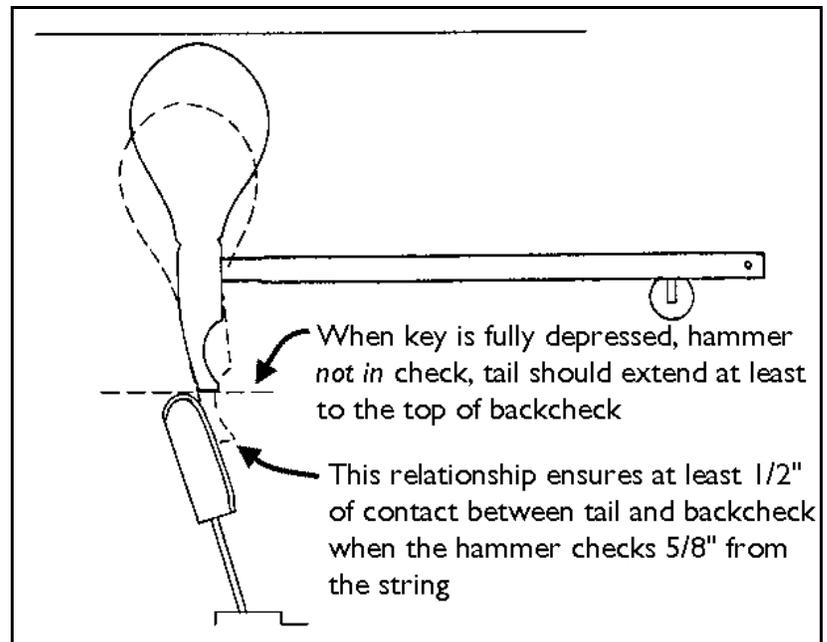

Figure 2: Proper tail length
► **Tail length:** Make sure replacement hammers are long enough to provide adequate tail length for good checking, as shown in Figure 2. Sometimes backchecks can be raised to improve checking when tails are short, but not if this causes large bass & tenor hammers to bump into the backchecks at rest. Tails can usually be  $1/8''$  to  $1/4''$  longer than original without any problem—in fact extra length will often improve checking and repetition. As a general rule  $1''$  is usually a minimum workable tail length.